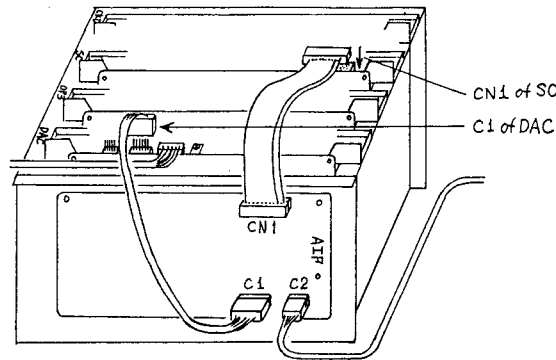

Fig. 5
14. Using the 40 pin flat cable assembly (ribbed side up, polarity marking on the right when viewed from back of organ) connect to socket CN1 of the AIF circuit board, and to socket CN1 of the "SC" circuit board (see figure 5).
15. Connect the loose end of the 10 conductor cable assembly connected in step #9, to C1 of the AIF circuit board, and to connector C1 of the DAC circuit board (see figure 5).